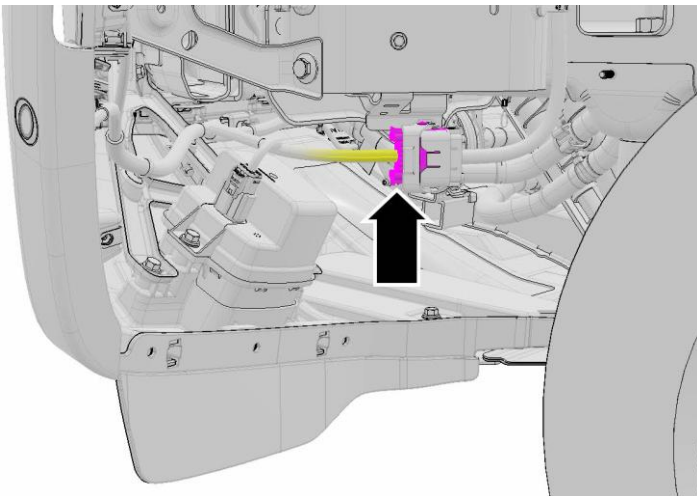

Figure 11
1. On the driver's side of vehicle disconnect the electrical connectors shown. (Figure 11 and 12)